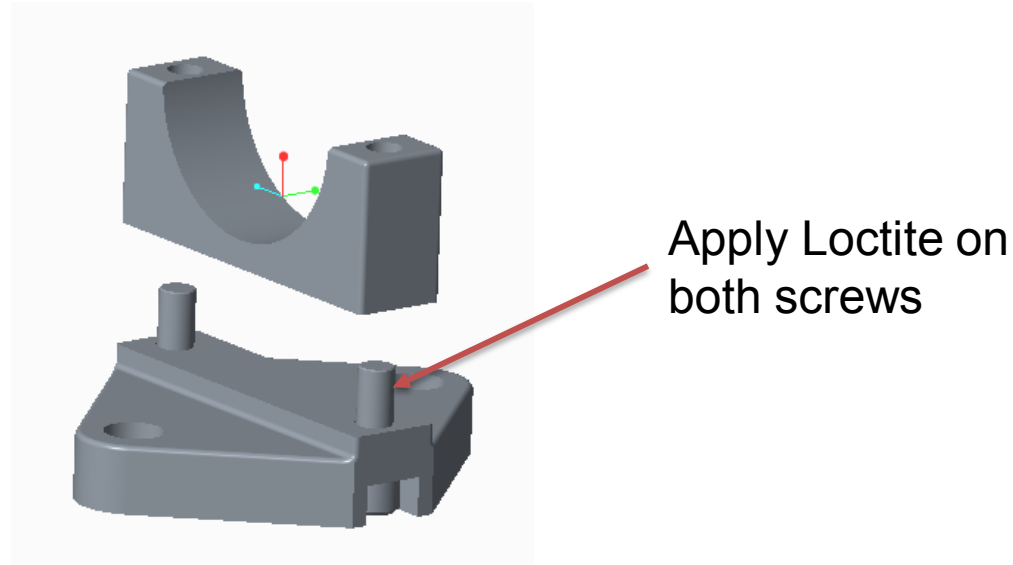

Figure 2
- A. Assemble as shown in Figure 2
- D. Repeat steps A-C and complete 4 assemblies as shown in figure 2